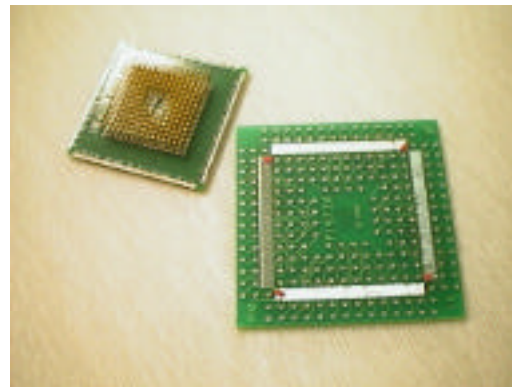

Figure 2: Placing Tac Flux
(1) Using a flux dispenser, place a small amount of Tac flux (water soluble or no clean) on the four corner pads of the target PCB as shown in Figure 2.